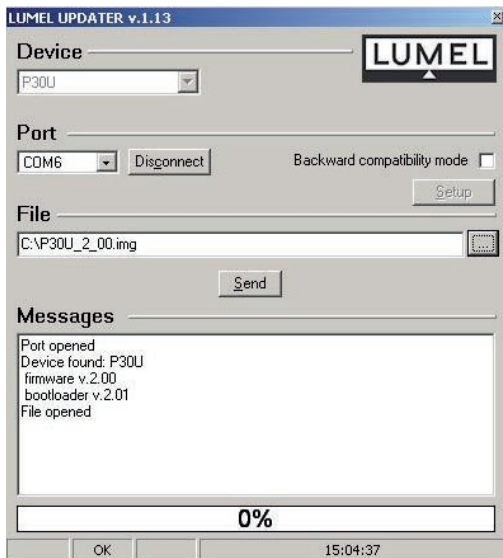

Fig.24. Screenshot of the software for updating transducer firmware.
After starting eCon software, set the rate, mode and transducer address, as well as the RS-485 interface port in **Communication** tab. Next, click **connect** icon and read all transducer parameters (required for restoring them later). Then, click **Update firmware** link which will call LUMEL UPDATER (LU) software dialog – fig. 24. Check transmission parameters using **Setup** button and press **Connect** button. Information about the update progress are displayed in Messages box. If the port is correctly opened, **Port opened** information is displayed. There are two methods of entering updating mode in the transducer: remotely via LU (based on eCon settings – address, mode, rate, COM port) or by powering the transducer on while holding down  key – update using default communication parameters, i.e. rate 9600 kb/s, mode 8N2, or while holding down  - key - update using recommended communication parameters, i.e. rate 115200 kb/s, mode 8N2. If all indicating LEDs are on and the display shows Connect UPDATER message, transducer is ready to connect with computer. If the transducer establishes communication with LUMEL UPDATER (LU) software, **Device found: P30U** message and the version of the main firmware and bootloader will be displayed, as well as the **Device is ready** message will be shown on the transducer display. Next, press “...” button and read the file with the new firmware version in LUMEL UPDATER. If the file opens properly, **File opened** information will be shown in the LU software window. Press Send button. During the update process, the indicating LEDs are switched on in a sequence, and the percent progress of update is shown on the lower line of the display. After a successful update, the transducer restarts to normal operation, whereas **Done** message and update duration are displayed in the information box (LU).